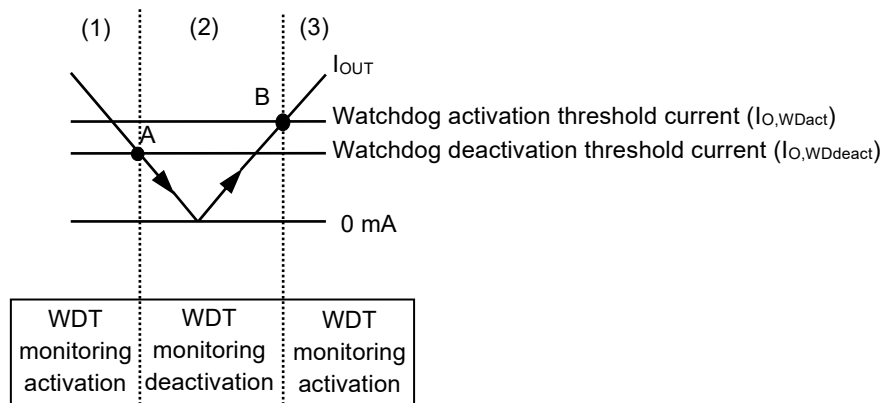

Figure 28 Autonomous Watchdog Operation Function
- (1) When I_{OUT} of the regulator is the watchdog activation threshold current ($I_{O,Wdact}$) or more, the input voltage (V_{Wdact}) of comparator (C1) is higher than the reference voltage (V_{ref}), and the output of C1 is "H". At this time, the watchdog timer activated.
- (2) When I_{OUT} decreases to the watchdog deactivation threshold current ($I_{O,Wddeact}$) (point A in **Figure 28**) or less, V_{Wdact} decreases to V_{ref} or less and the output of C1 is "L". At this time, the watchdog timer deactivates the monitoring. Even if I_{OUT} increases, the watchdog timer continues the monitoring deactivation when I_{OUT} is within less than $I_{O,Wdact}$
- (3) If I_{OUT} further increases to $I_{O,Wdact}$ (point B in **Figure 28**) or more, V_{Wdact} increases to V_{ref} or higher and the output of C1 is "H". And then, the watchdog timer initiates the monitoring activation.